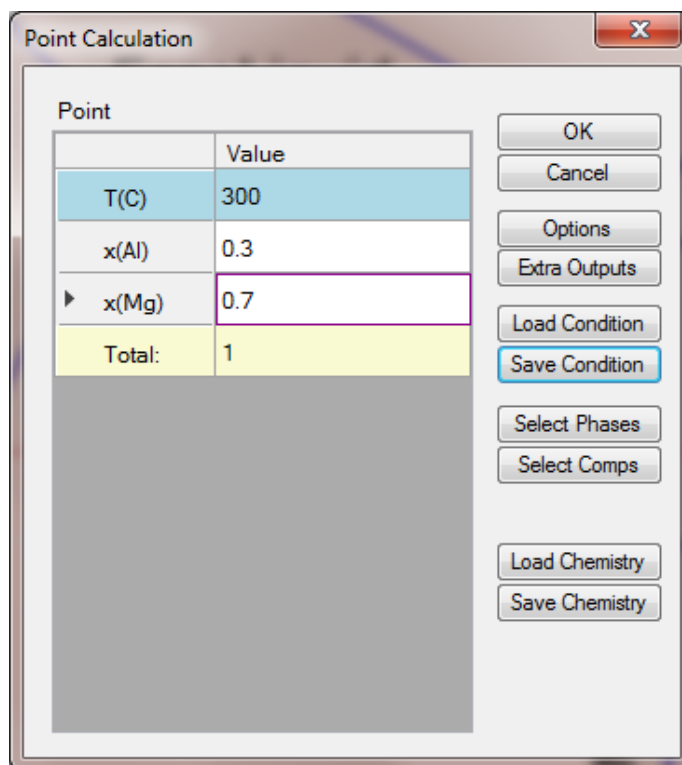

Figure 1.4.2: Point Calculation for an alloy with 30 at% Al and 70 at% of Mg at 300°C
- Set Calculation Condition as shown in Figure 1.4.2;